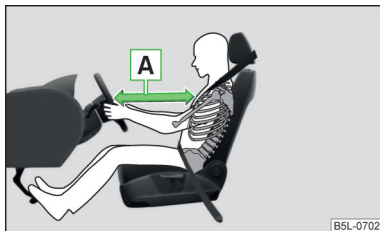

Fig. 8
The airbags inflate in front of the driver and front passenger when they are deployed » Fig. 8 - [B]. The forward movement of the driver and of the front passenger is cushioned when they make contact with the fully inflated airbag and the risk of injury to head and chest is thus reduced.
- For the driver and front passenger, it is important to maintain a distance of at least 25 cm to the steering wheel or dashboard [A] » Fig. 8. Not maintaining this minimum distance will mean that the airbag system will not be able to properly protect you – hazard! The front seats must always also be correctly adjusted to match the body size of the occupant.